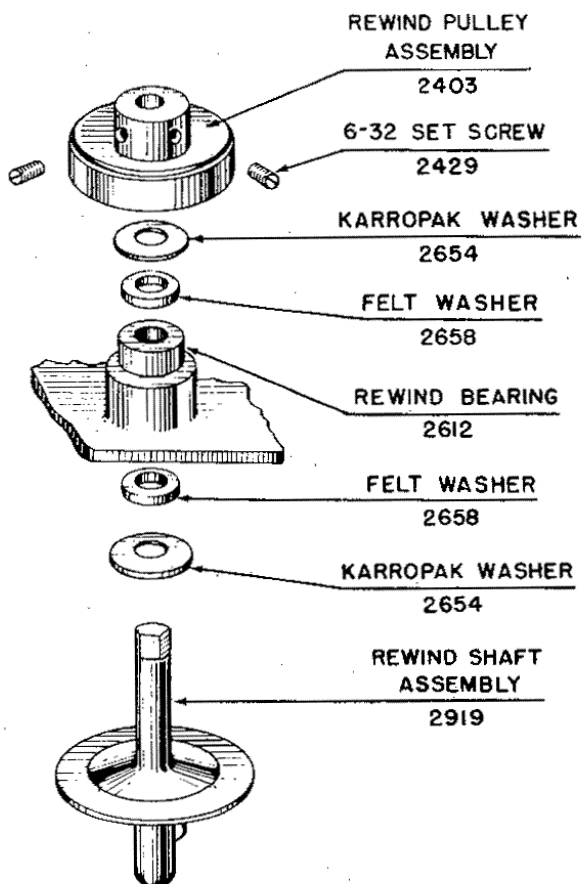

FIG. 9 - Rewind Assembly.
- (1) Disassembly: (See Fig. 9.) Loosen set screws (#2429). Lift rewind pulley assembly (#2403), karropak washer (#2654) and felt washer (#2658) from rewind shaft assembly (#2919). Slip rewind shaft assembly (#2919) out of bearing (#2612).
- (2) Inspection: Check rewind pulley (#2403) surface, rewind shaft (#2919) and bearing (#2612) for wear.
- (3) Repair: Replace worn parts.
- (4) Reassembly: Grease rewind shaft (#2919) with ANDOX "B" Grease. Assemble as shown in Fig. 9. Tighten set screws (#2429) against flats of rewind shaft (#2919), allowing 1/64 inch play along axis of shaft.